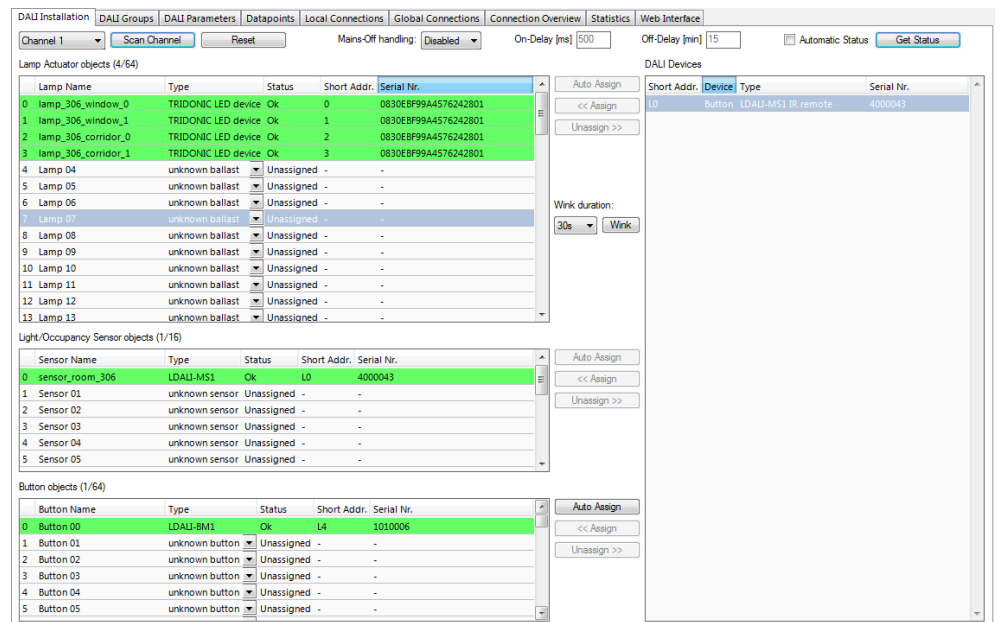

Figure 25: LINX Configurator software, After Configuration Download.
- After the download is complete, go back to the DALI Installation tab and press the **Get Status** button. Now the assigned DALI devices are displayed on a green background (see Figure 25). The green background color indicates that the communication with the device is OK. If there is a communication error, the device will be displayed with a red background color.